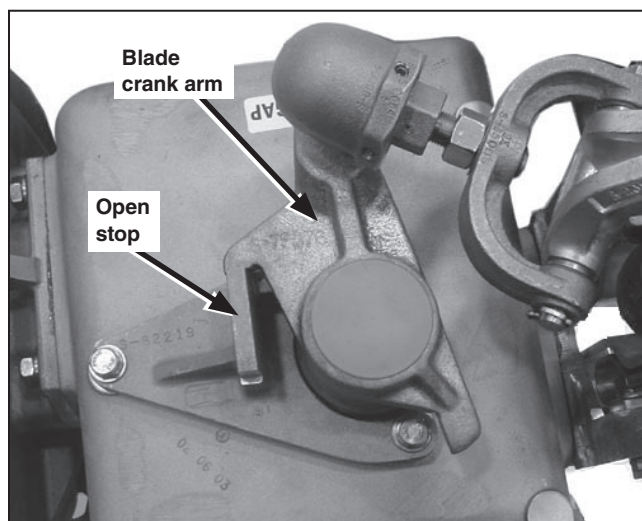

Figure 15. Top of brain, blade crank arm stop. Open position.
- (e) The blade crank-arm at the top of the brain rests against the blade crank-arm stop in the fully **Open** position. See Figure 15 on page 19.
With the drive-shaft crank in the fully **Open** toggle position described, the blade crank-arm at the top of the brain should rest against its open stop, thus assuring a positive **Closed and Latched** position of the interrupter. See Figure 15. Do not attempt to adjust this stop. The stop is factory-set to provide the travel necessary to achieve positive latching of the brain as well as tripping simultaneity.
STEP 2. If simultaneity within the limits specified is not attained, recheck the blade crank-arm at the top of each brain with the circuit-switcher in the fully **Open** position. (See Figure 15 on page 19.) If any blade crank-arm fails to meet its Open stop, it will be necessary to isolate the pole-unit(s) affected by loosening the clamps at both ends of the applicable interphase and/or connecting shafts. Then proceed as follows: